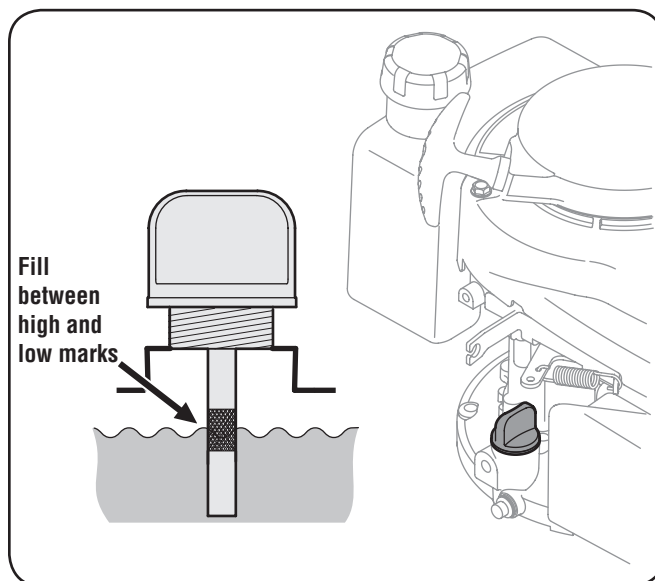

Figure 3-2
1. Remove the oil filler cap/dipstick and wipe the dipstick clean. See Figure 3-2.
3. Remove the oil filler cap/dipstick. If the level is low, slowly add oil until oil level registers between high (H) and low (L). See Figure 3-2.